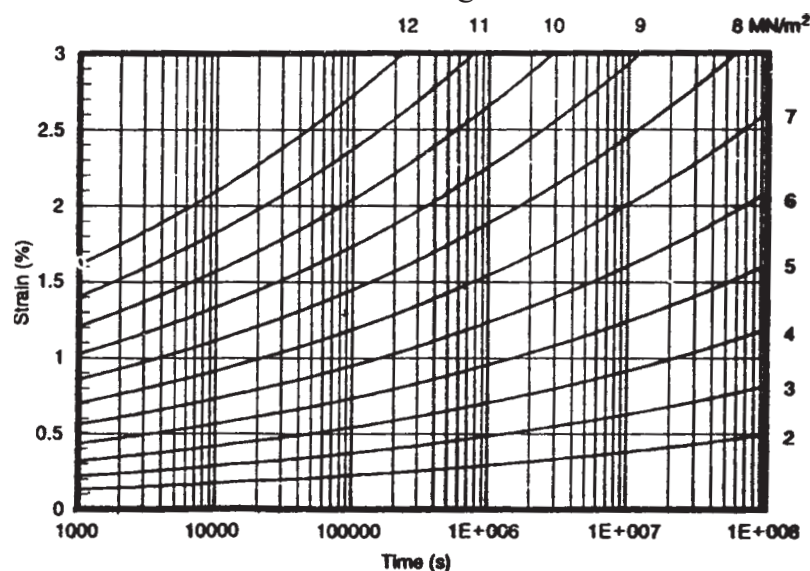

Fig.1 Creep curves for polypropylene at 20°C (density 909 kg/m³)
- b) A PP beam 120 mm long is simply supported at each end. It is subjected to a load W at its mid span. If the maximum permissible strain in the material is to be 2%, calculate the largest load which may be applied so that deflection of the beam does not exceed 5 mm in a service life of 1 year. $I = 30 \text{ mm}^4$ and curves in Fig.1 should be used. [5]